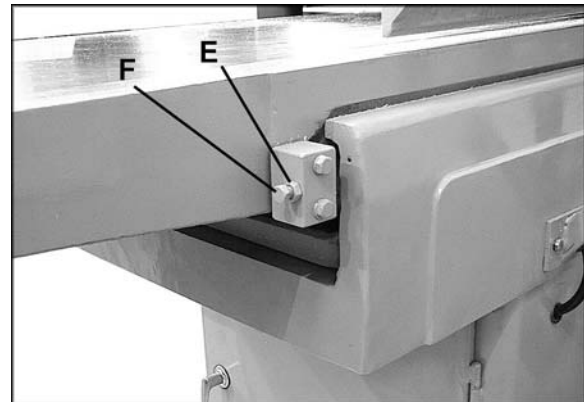

Figure 17
Refer to Figure 17.
A limit block, shown in Figure 17, is mounted to the rear of each table. It sets the maximum height the tables can be raised, and is pre-set at the factory. If adjustment is ever needed, loosen the hex nut (E) and turn the screw (F) as needed. Retighten hex nut (E).